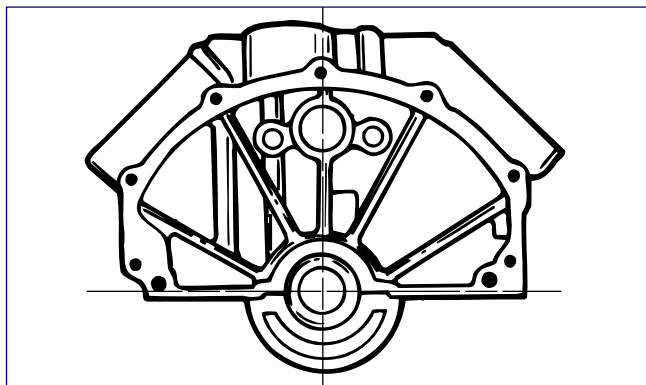
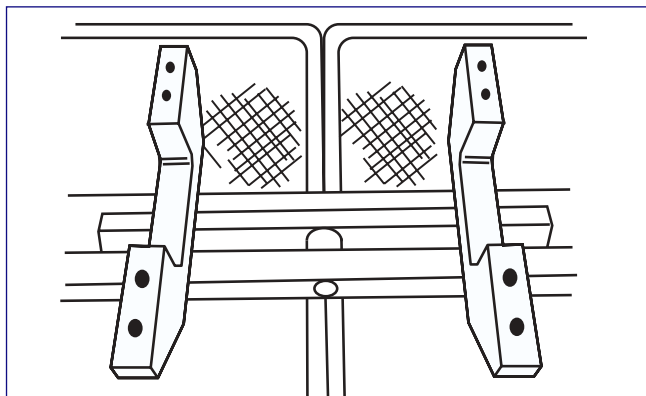

FIGURE 3-19, Main Bearing Centerline
FIGURE 3-20, Riser Blocks
- If engine block's main bearing centerline is in line with pan rails (*see Figure 3-19*), position riser so that it is in a vertical position (*see Figure 3-20*). Large notch in center will provide clearance for main bearing housings. If pan rails are below centerline, position risers so they are in a flat configuration.